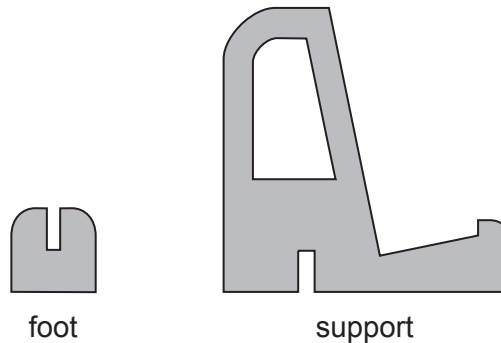

Fig. 12.2
- (a) Fig. 12.2 shows two templates that will be used to mark out the shapes onto acrylic sheet.